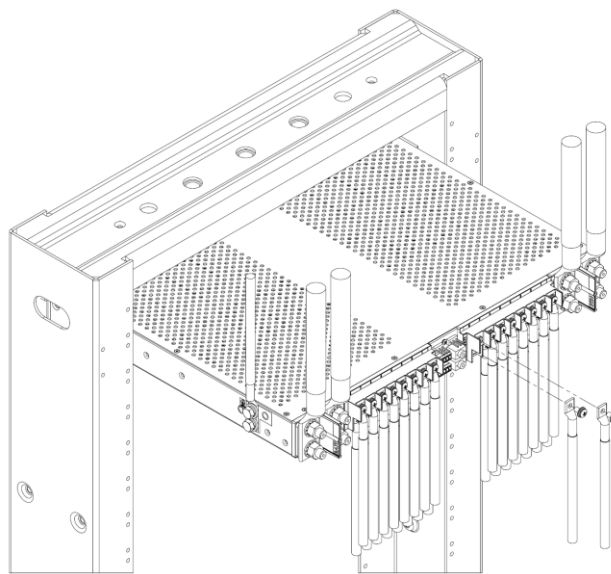

Fig. 2-16: Output Lugs
46. If required, lightly coat antioxidant on lugs and output BATT and RTN terminals and then connect lugs to terminals, as shown in Fig. 2-16. (NEC specifies only one lug and load at each output terminal.)